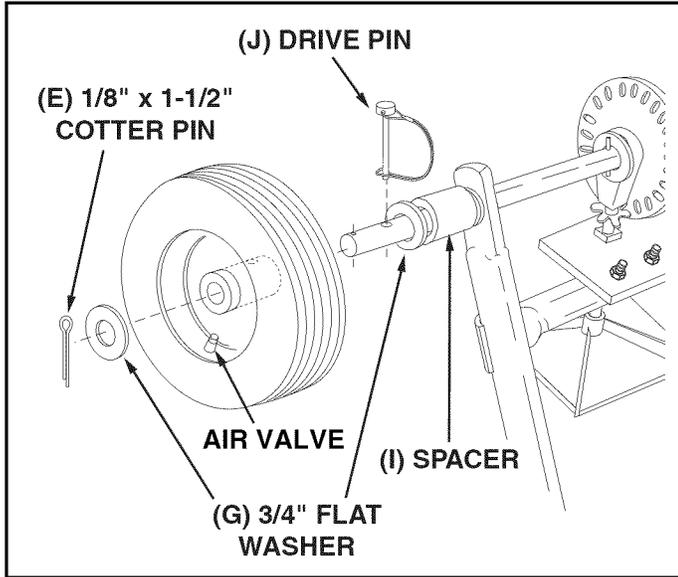

FIGURE 4
STEP 4: (SEE FIGURE 4)
- Assemble a spacer (I), a 3/4" flat washer (G), a wheel (air valve facing out) and another 3/4" flat washer (G) onto the end of the axle that has both the **large and small holes**.
- Install a 1/8" x 1-1/2" cotter pin (E) into the small hole in the end of the axle.
- Open the bail on the drive pin (J) and install it through the wheel and the large hole in the axle. Close the bail to lock the pin in place.
(Refer to figure 4 on page 5.)
- If the axle, slotted gear and sprocket assembly is disassembled, mark down the positions of the parts as they are removed. The drive wheel and sprocket positions in relation to the slotted gear determine which direction the spreader plate will spin. Be sure to reassemble them in their original positions. (Refer to figure 4 on page 5.) Use shim washers (Ref. no. 21 on pages 10 and 11) as needed for minimum backlash. Add grease to gear and sprocket.